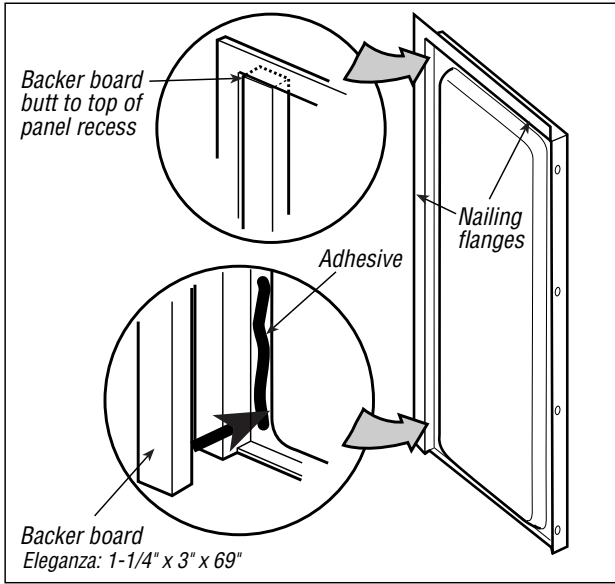

Figure 1
- 1** If you will be installing a shower door, a backer board (*note size in Figure 1*) must be installed on the back of both side walls. Apply a bead of adhesive in the recess of each side wall and attach board (*Figure 1*), butting board up to the top of the recess.